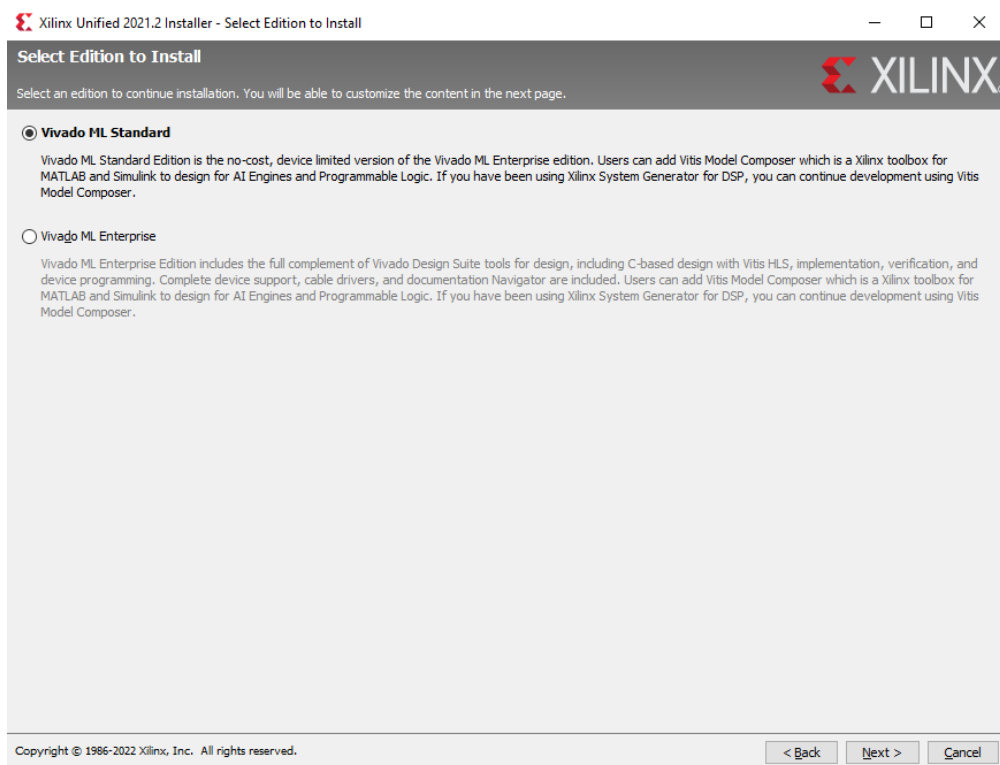

Figure 2: “Select Product to Install” window
4. In the **Select Edition to Install** window, select Vivado ML Standard as shown in Figure 2